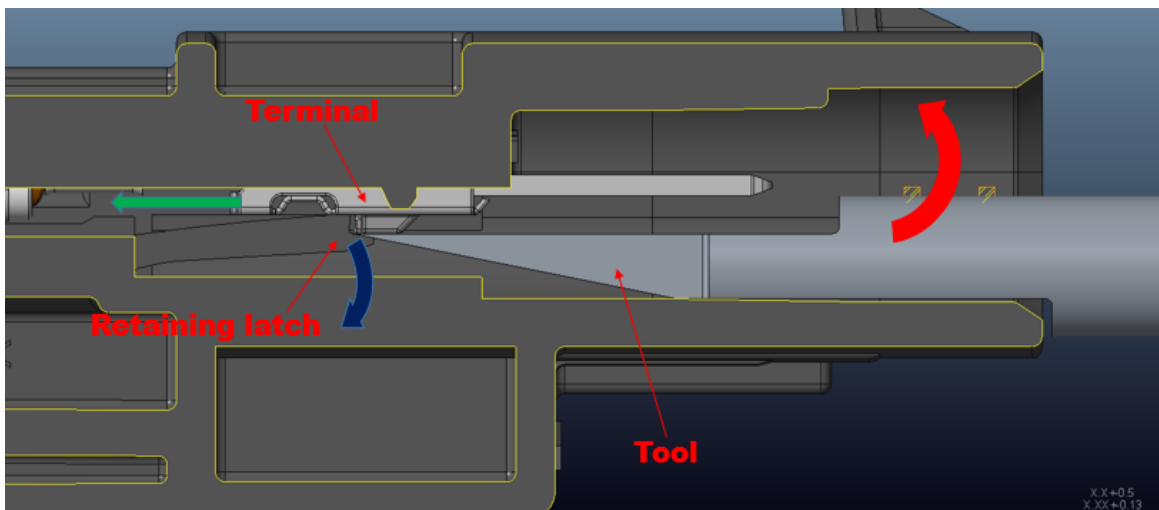

Figure 14
- a. Rotation of the tool moves the retaining latch out of the way (reference Figure 14). This allows both terminals to be removed from the housing with a gentle pulling motion.